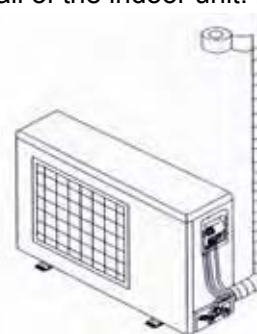

Fig.42
- (1) Use adhesive tape to bundle the connecting pipe and the cables together. To prevent condensate from overflowing out from the drainage pipe, separate the drainage pipe from the connecting pipe and the cables.
- (2) Use thermal insulation tape to wrap the pipes from the bottom of the outdoor unit until the upper end of the pipe where the pipe enters the wall. When wrapping thermal insulation tape, the later circle of tape must cover half of the front circle of tape (Refer to Figure 42).
- (3) Wrapped pipe must be fixed to wall using pipe clamps.